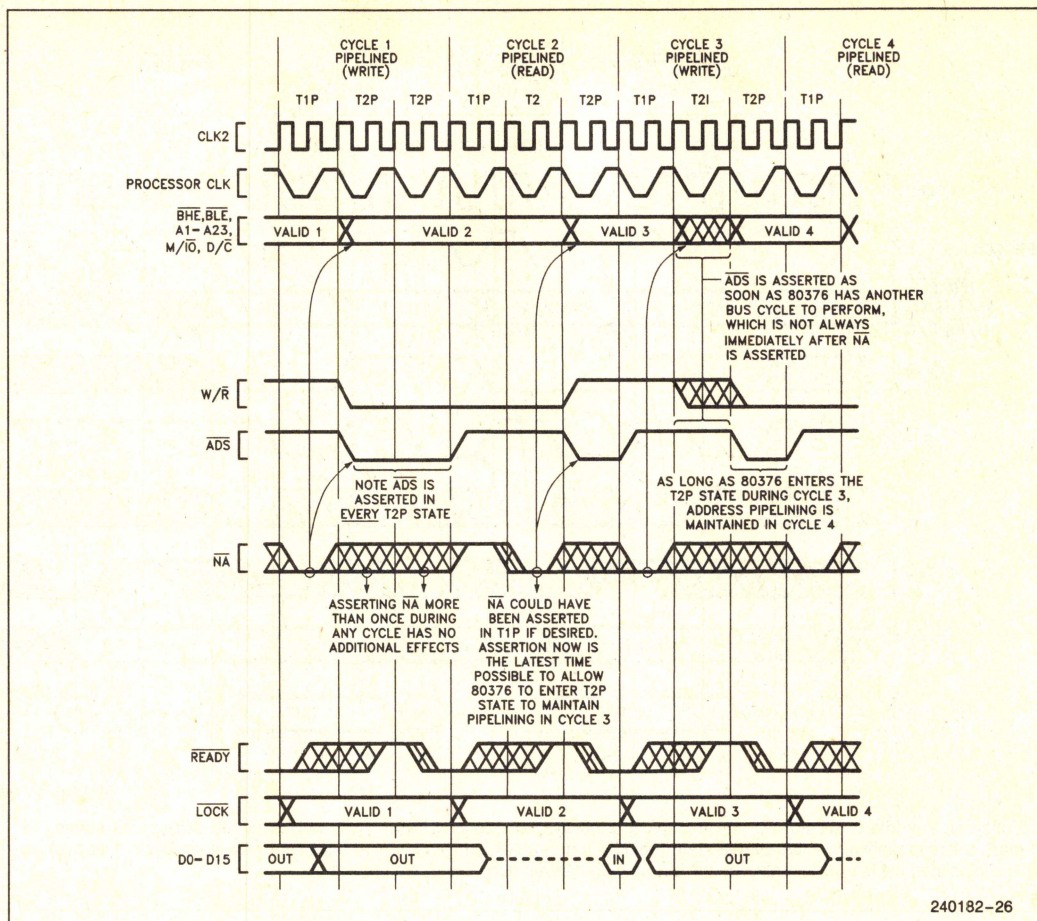

Figure 4.11. Details of Address Pipelining during Cycles with Wait States
1. The next address and status may appear as early as the bus state after \overline{NA} was sampled active (see Figures 4.9 or 4.10). In that case, state T2P is entered immediately. However, when there is not an internal bus request already pending, the next address and status will not be available immediately after \overline{NA} is asserted and T2I is entered instead of T2P (see Figure 4.11 Cycle 3). Provided the current bus cycle isn't yet acknowledged by \overline{READY} asserted, T2P will be entered as soon as the 80376 does drive the next address and status. External hardware should therefore observe the \overline{ADS} output as confirmation the next address and status are actually being driven on the bus.
3. Only the address and bus cycle definition of the very next bus cycle is available. The pipelining capability cannot look further than one bus cycle ahead (see Figure 4.11, Cycle 1).